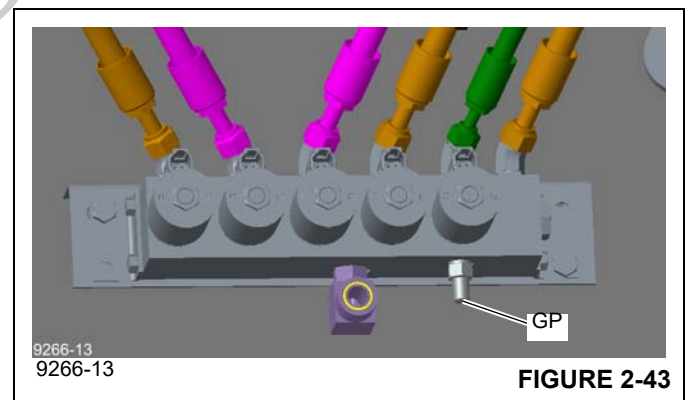

FIGURE 2-43
1. With the engine off, install a pressure check diagnostic coupler (Parker PD240) with gauge onto the diagnostic nipple at the GP port of the outrigger 5 stack valve (see Figure 2-43).